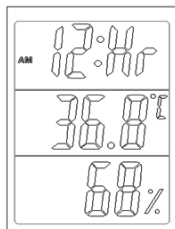

Fig. 2
4. Press **MODE** button to advance to *12- or 24-hour mode* and use the **ADJ** button to change value (see Fig. 2).